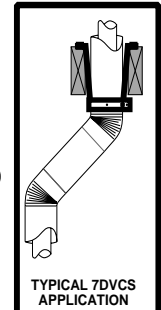

Fig. 60
- e) 7DVCs must be used to support offsets. (Fig. 60)